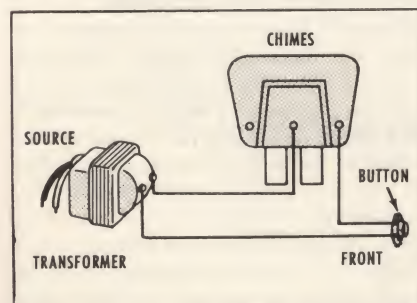
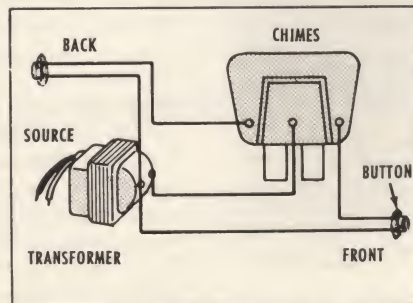
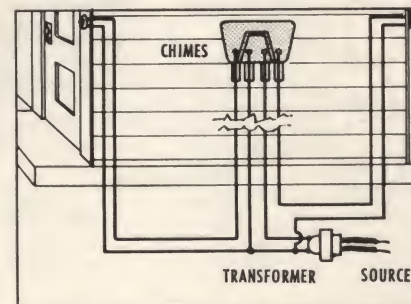

FIG. 81 1- AND 2-NOTE CHIMES AT FRONT ENTRANCE
FIG. 82 1- AND 2-NOTE CHIMES—FRONT AND REAR
FIG. 83 4-NOTE CHIMES INSTALLATION
**WIRING INSTRUCTIONS.** The wiring for chimes is essentially the same as for bells and buzzers. Fig. 81 shows wiring for front entrance installation of one and two-note chimes. Fig. 82 shows wiring when pushbutton for rear door is added to the same circuit. Chimes will sound one note for back door and two notes for the front door. Wards deluxe 4-tube chimes sound one note for back and 8 notes for the front door. (See Fig. 83.) Wiring instructions are included with all Wards chimes.